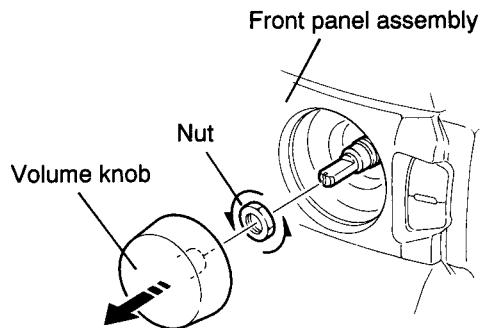

Fig.5-20
(See Figs. 5-20~5-23)
4. Remove the volume knob from the front of the front panel assembly.(See Fig. 5-20)
5. Remove the nut fastening the volume control from the front panel assembly.(See Fig. 5-20)